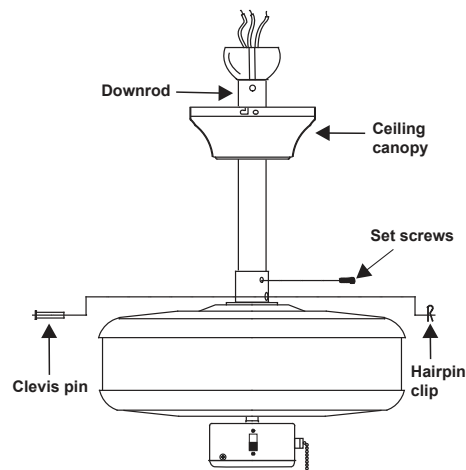

Figure 8
Step 6. Slip canopy onto downrod. Carefully reinstall hanger ball onto downrod being sure that pin is in correct position, the set screw on hanger ball is tight and wires are not twisted. (Fig. 8)